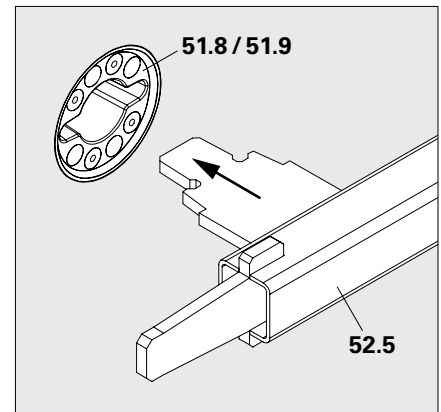

Fig. 02b
2. Only in the case of magnet cones: Use the lug of the magnet cone spanner to remove concrete slurry promptly after striking. (Fig. 02b)